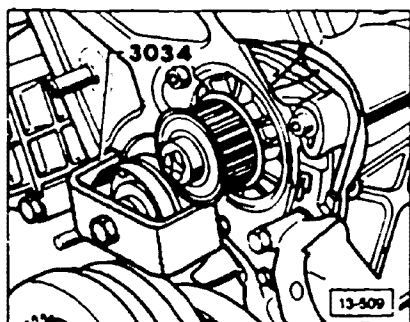

Fig. 3 Idler pulley, removing
► Fig. 3 Pilot needle bearing, installing